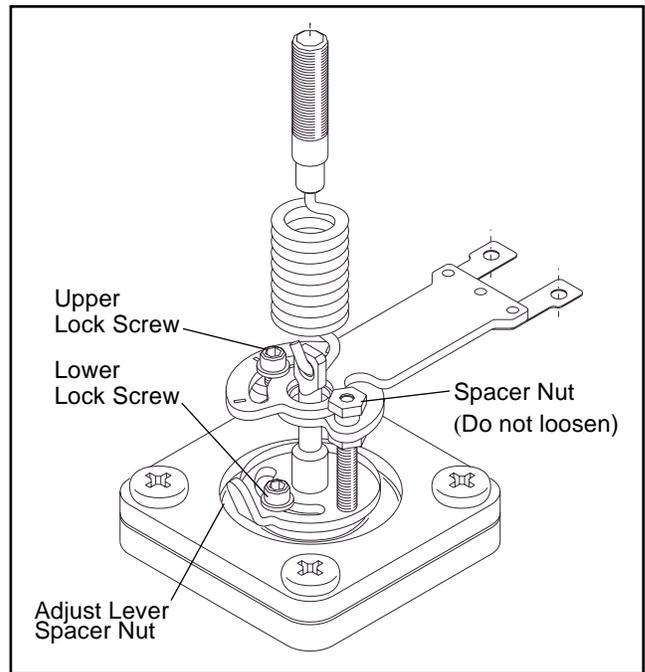

Figure 8: Gain Adjustment
3. Using a $\frac{5}{64}$ -inch allen wrench, *loosen both upper and lower lock screws* about one half turn. Do not loosen the spacer nut. (See Figure 8.)